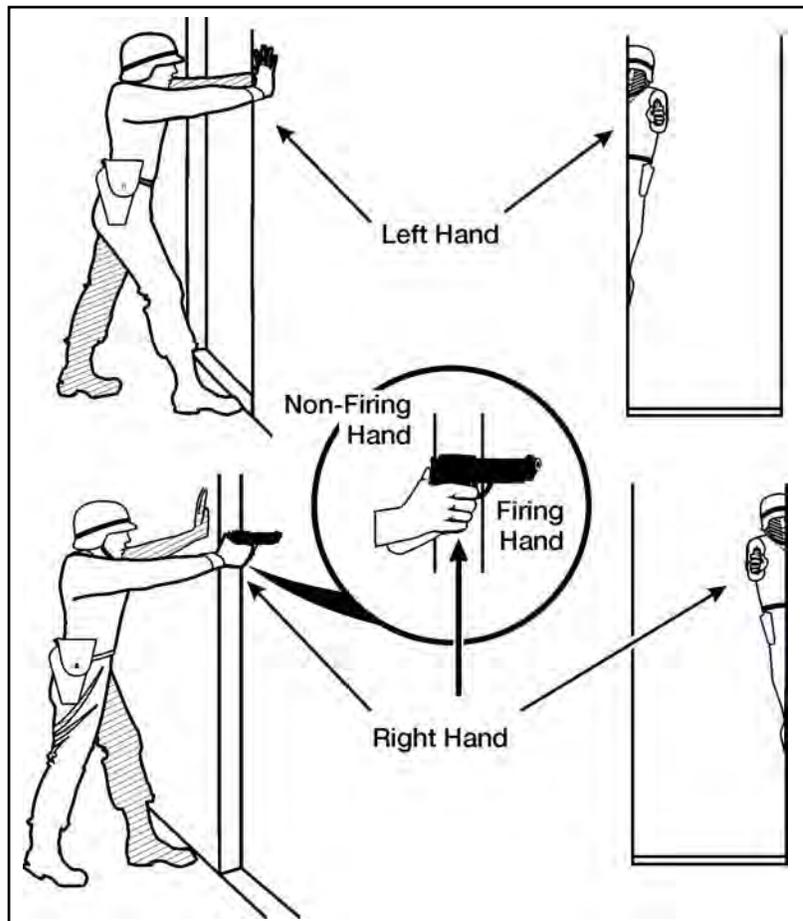

Figure 071-004-0006-7. Standing-with-support position
c. Kneeling (figure 071-004-0006-8). To assume this position—
- (1) Use available cover, such as a low wall, rocks, or a vehicle that you can fire over, for support.
- (2) Place your firing knee on the ground. Put your left knee down to fire left-handed, or your right knee down to fire right-handed.
- (3) Bend your other knee. Place the foot on your nonfiring side flat on the ground, pointing toward the target. Extend your arms over available cover and use it for support.
- (4) Lock the wrist and elbow of your firing arm.
- (5) Wrap your nonfiring hand around your firing fist or wrist to support your firing arm.